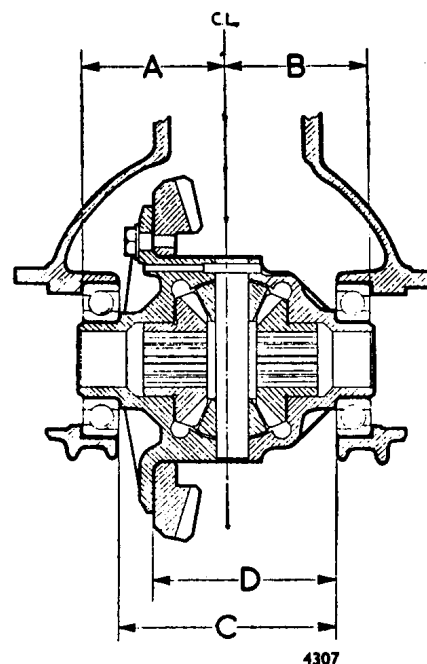

Fig. HH.8
The second series of axles are stamped with 'A', 'B', 'C', and 'D' dimensions as indicated in Fig. HH.8, and the shim thickness necessary to locate the crown wheel correctly is determined by the use of Service tools 18G 191 and 18G 191 A and calculation.
- (1) To assist in the calculations of the thickness of shims to be fitted behind each differential cage bearing variations are indicated by stamped numbers on the carrier adjacent to the bearing bores. The dimensions to be considered are shown in Fig. HH.8, (A) being the distance from the centre-line to the bearing register of the carrier on the left-hand side and (B) the distance from the centre-line to the bearing register of the carrier on the right-hand side. The (C) dimension is from the bearing register on one side of the cage